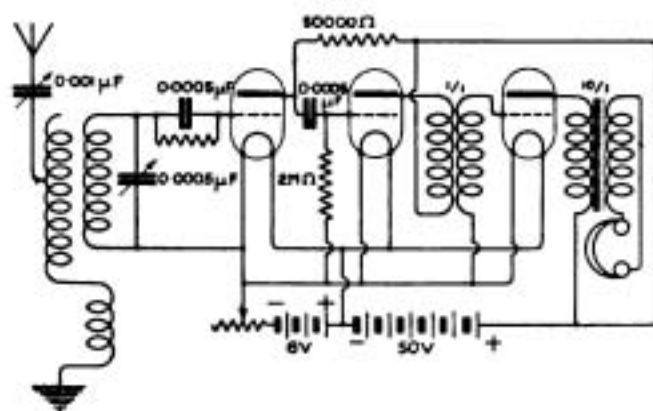

Fig. 4.
P.W. (Leamington).—(1) B valves are "harder" than the R type, and require much greater anode potentials. They are transmitting valves.
(2) A 3-valve amplifier—two valves H.F. magnification and rectification, and one valve giving L.F. magnification. (Fig 4).